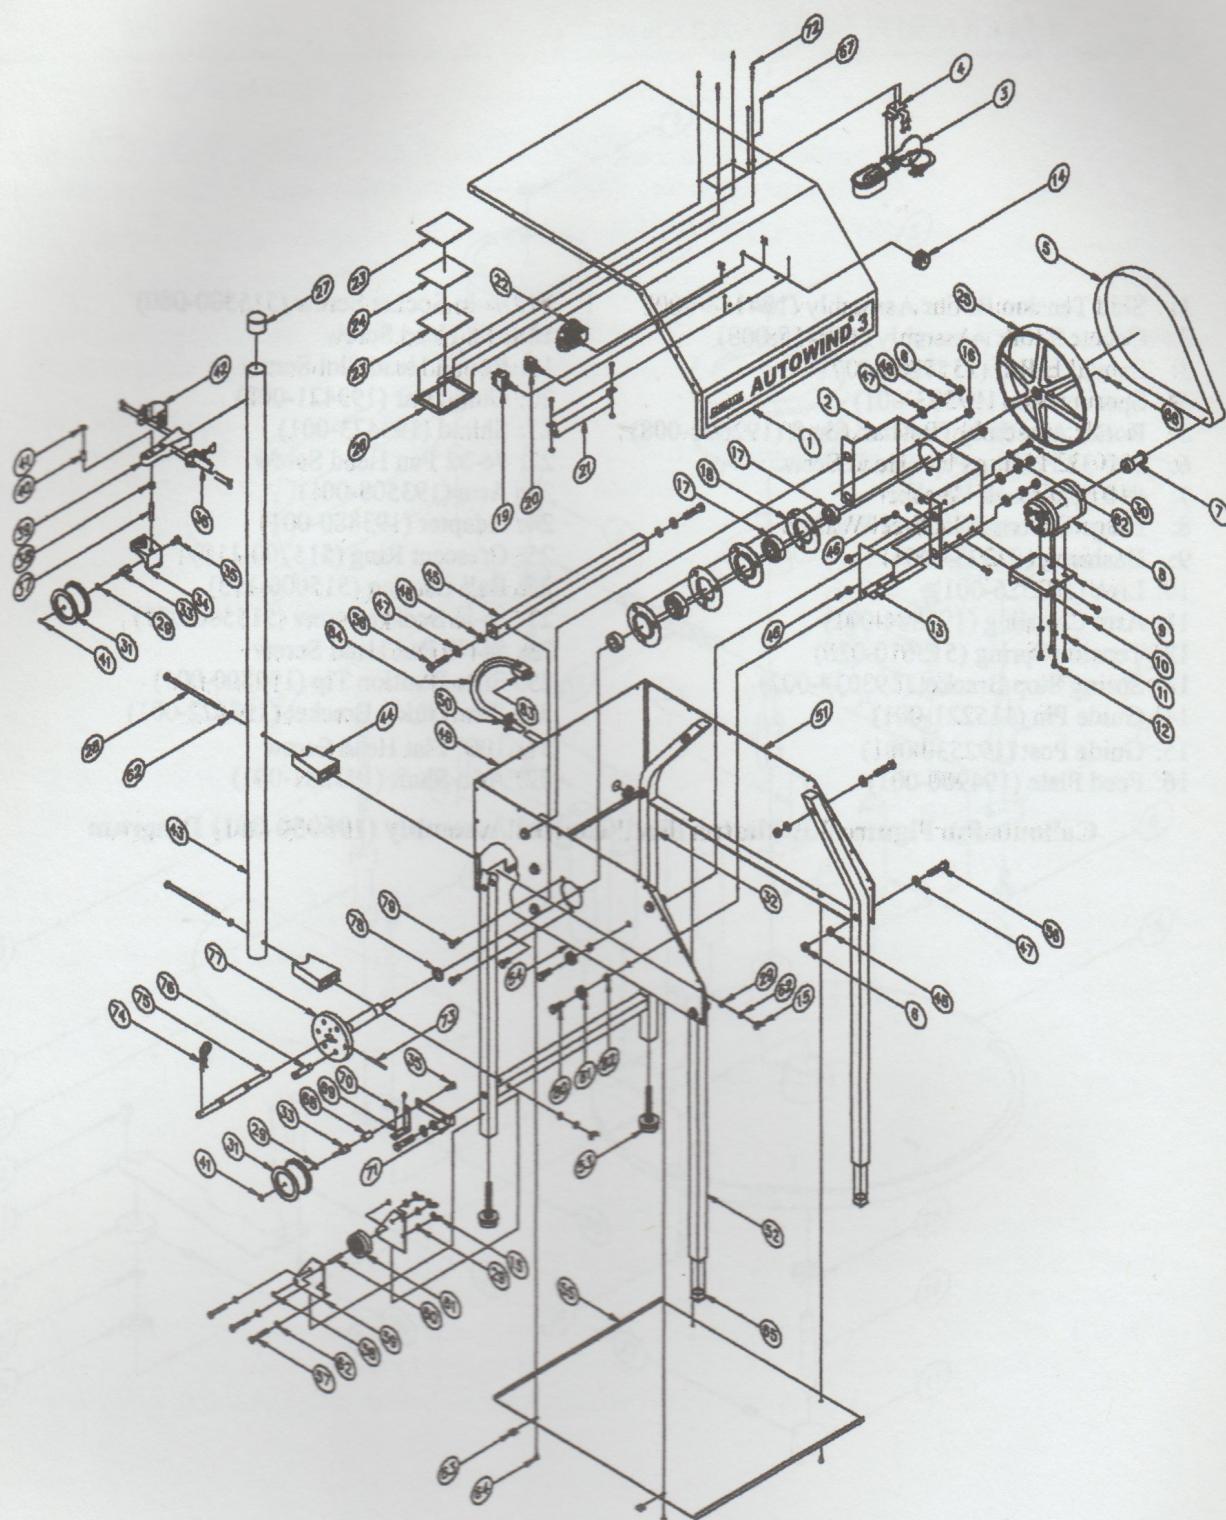

Figure 3-4: Make-Up Table Assembly (193052-003) Diagram
1. Assemble table legs (see items 52 and 90 in Figure 3-4) to make-up tabletop. Use two  $\frac{3}{8}$ -16 x 1.75 in (3.91 cm) bolts, two lock washers, and two washers to attach each leg to inner side of appropriate side plate.
2. Assemble horizontal bars (see item 45 in Figure 3-4) between legs. Use two  $\frac{3}{8}$ -16 x 1.75 in (3.91 cm) bolts, two lock washers, and two washers to attach each horizontal bar to rear legs.
3. Refer to Figure 3-4. Install roller post (item 43) onto make-up table horizontal bars using two each standoffs (see item 44), screws (see item 28), and wing nuts (see item 15), and four washers (see item 67).
**Callouts for Figure 3-4: Make-Up Table Assembly (193052-003) Diagram**